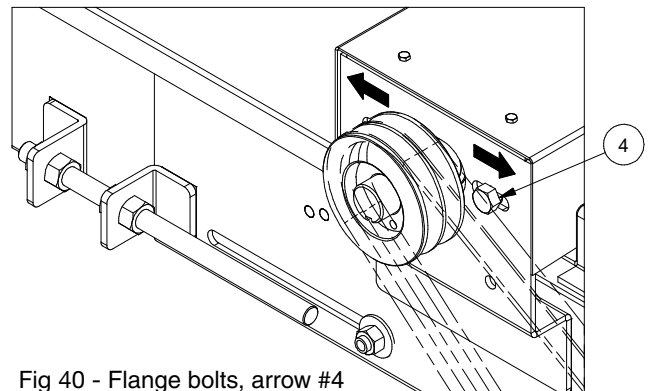

Fig 40 - Flange bolts, arrow #4
6. Tighten the two flange bolts. See Figure 40